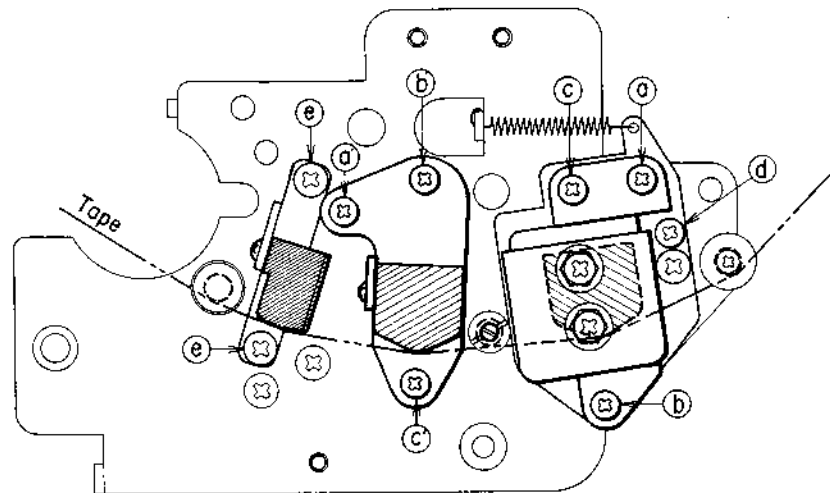

Fig. 6-1
- 1) During Normal Play, adjust screws (a') (b') (c') (Fig. 6-1) so that the upper edge of the upper core of the Playback and Recording Head is the same height as the upper edge of the tape. During Reverse Play, adjust screw (d) (Fig. 6-1) so that the lower edge of the lower core is the same height as the lower edge of the tape.